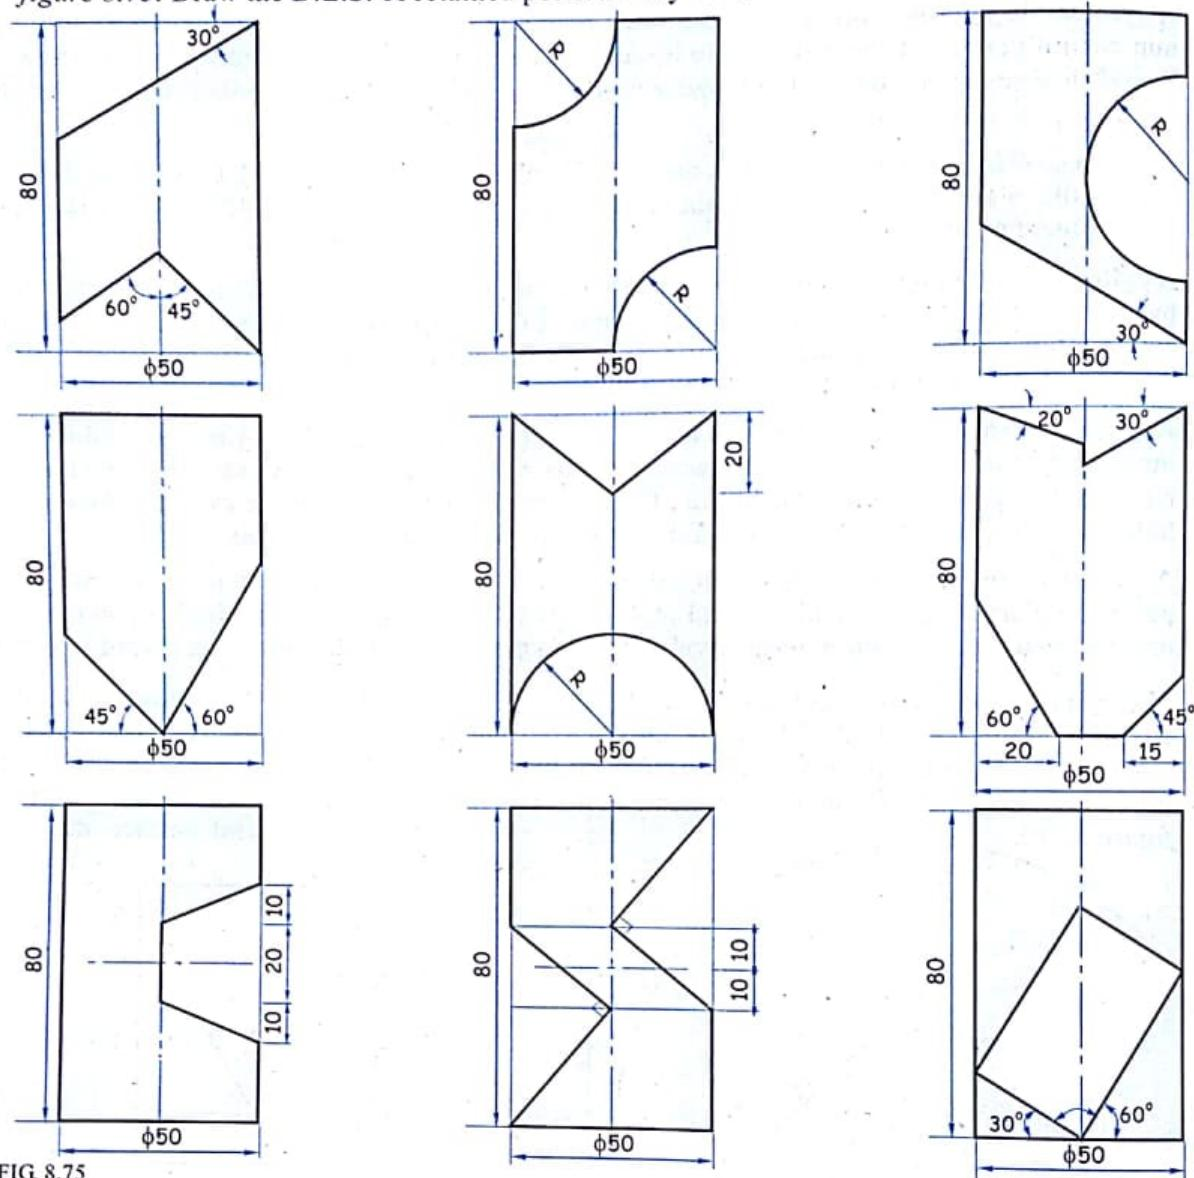

FIG. 8.75
21. F.V. of a cylinder of 50 mm diameter and axis height 80 mm are cut in different ways as shown in figure 8.75. Draw the D.L.S. of retained portion of cylinder.